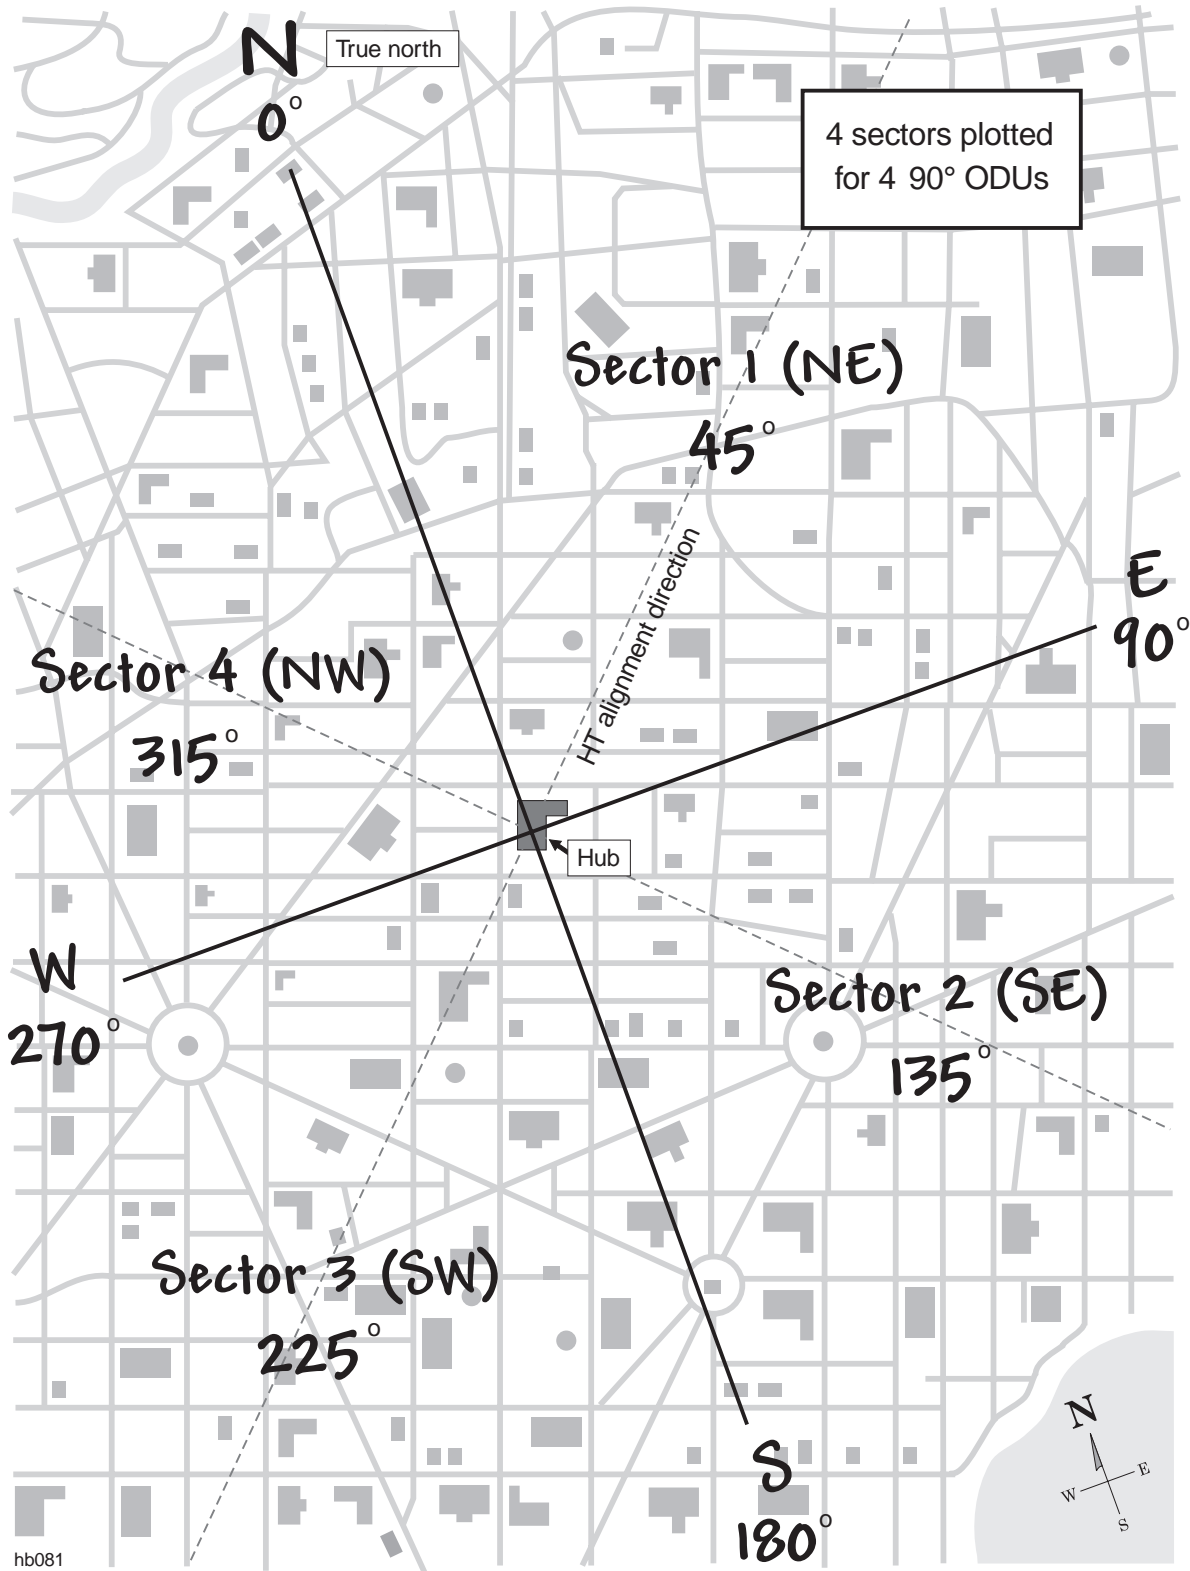

Figure 4-3 Example: Sectors and HT alignment directions plotted on a local map
4. Carefully plot lines for true north (0°), south, east, and west, with the hub site at the intersection, as shown in figure 4-3 (page 4–7).
5. Plot the assigned alignment direction for each sector, and identify the sectors, using figure 4-3 as an example.
Figure 4-3 shows four sectors for 90° ODUs. Sectors for 45° or 22.5° ODUs are 45° and 22.5° wide, respectively. In some cases, a full 360° coverage range is not required.
Once you know true north (0°) you can easily determine south, east, and west (at 90° intervals), as shown in figure 4-3. You can use the map, protractor, and landmarks to determine any other direction (angle) on the map or with respect to the actual site.